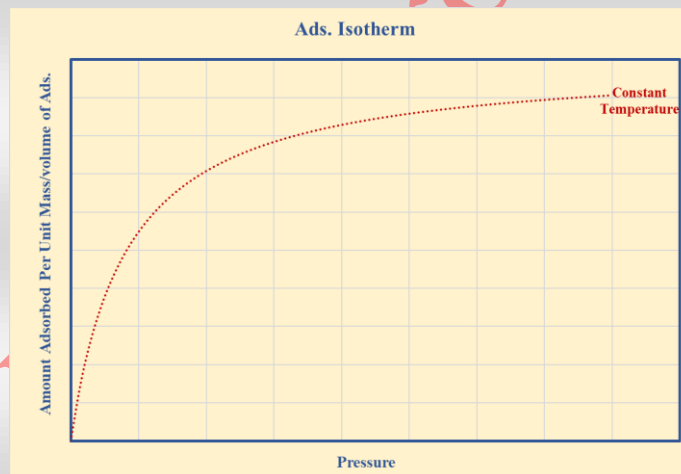

Figure 2-Adsorption Isotherm
- Isotherm: an isotherm shows the amount of adsorbed gas per unit volume/mass of adsorbent at different pressures at a constant temperature. It can be used in determining the required pressure swing, the amount of adsorbent needed for the separation, selectivity, An adsorption isotherm curve is shown in figure 2.